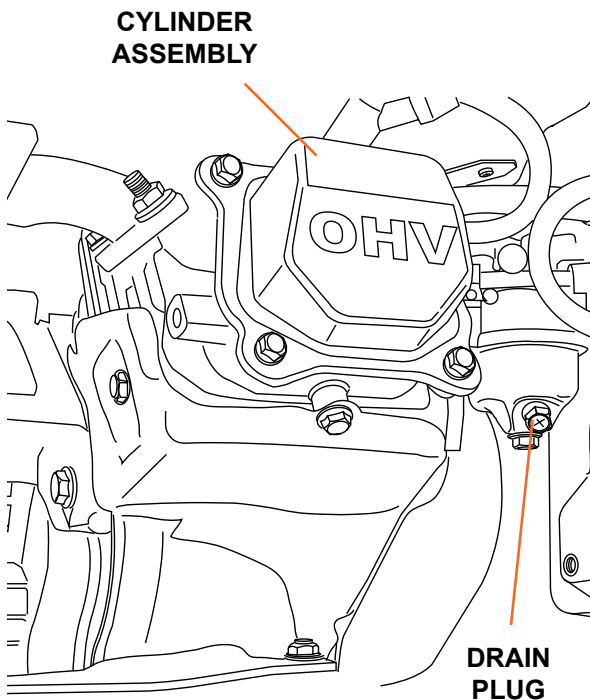

Figure 26
4. Drain the carburetor (see Figure 26). Remove the 6 hex bolts on the muffler, and slide the muffler cover off of the engine to access the carburetor.